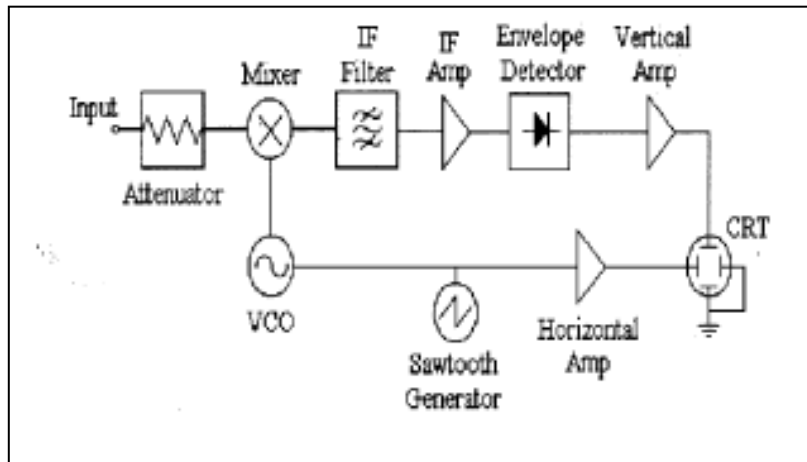

Fig.2: Spectrum Analyzer Block Diagram
The most common spectrum analyzers sweep the spectrum of a signal through a fixed band pass filter similar to the principle of super-heterodyne receiver. A block diagram of a spectrum analyzer is shown in Figure 2. The analyzer is basically a narrowband receiver, which is electronically tuned in frequency by applying a saw tooth voltage to a voltage-controlled oscillator (VCO). The same saw tooth is applied to the horizontal deflection plates of the CRT. The VCO frequency is mixed with the input to produce an intermediate frequency (IF).